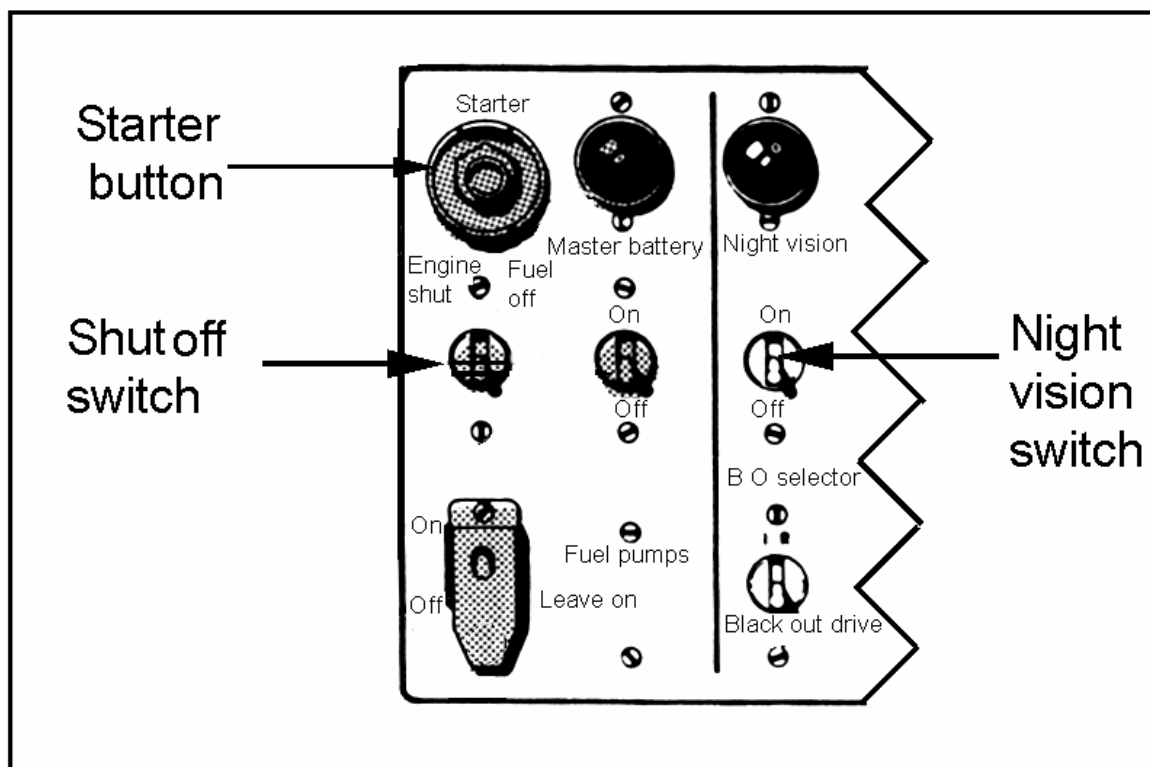

Figure 052-225-1250-2
7. Push up and hold the engine fuel-shutoff switch in the OFF position until the engine stops (Figure 052-225-1250-2).